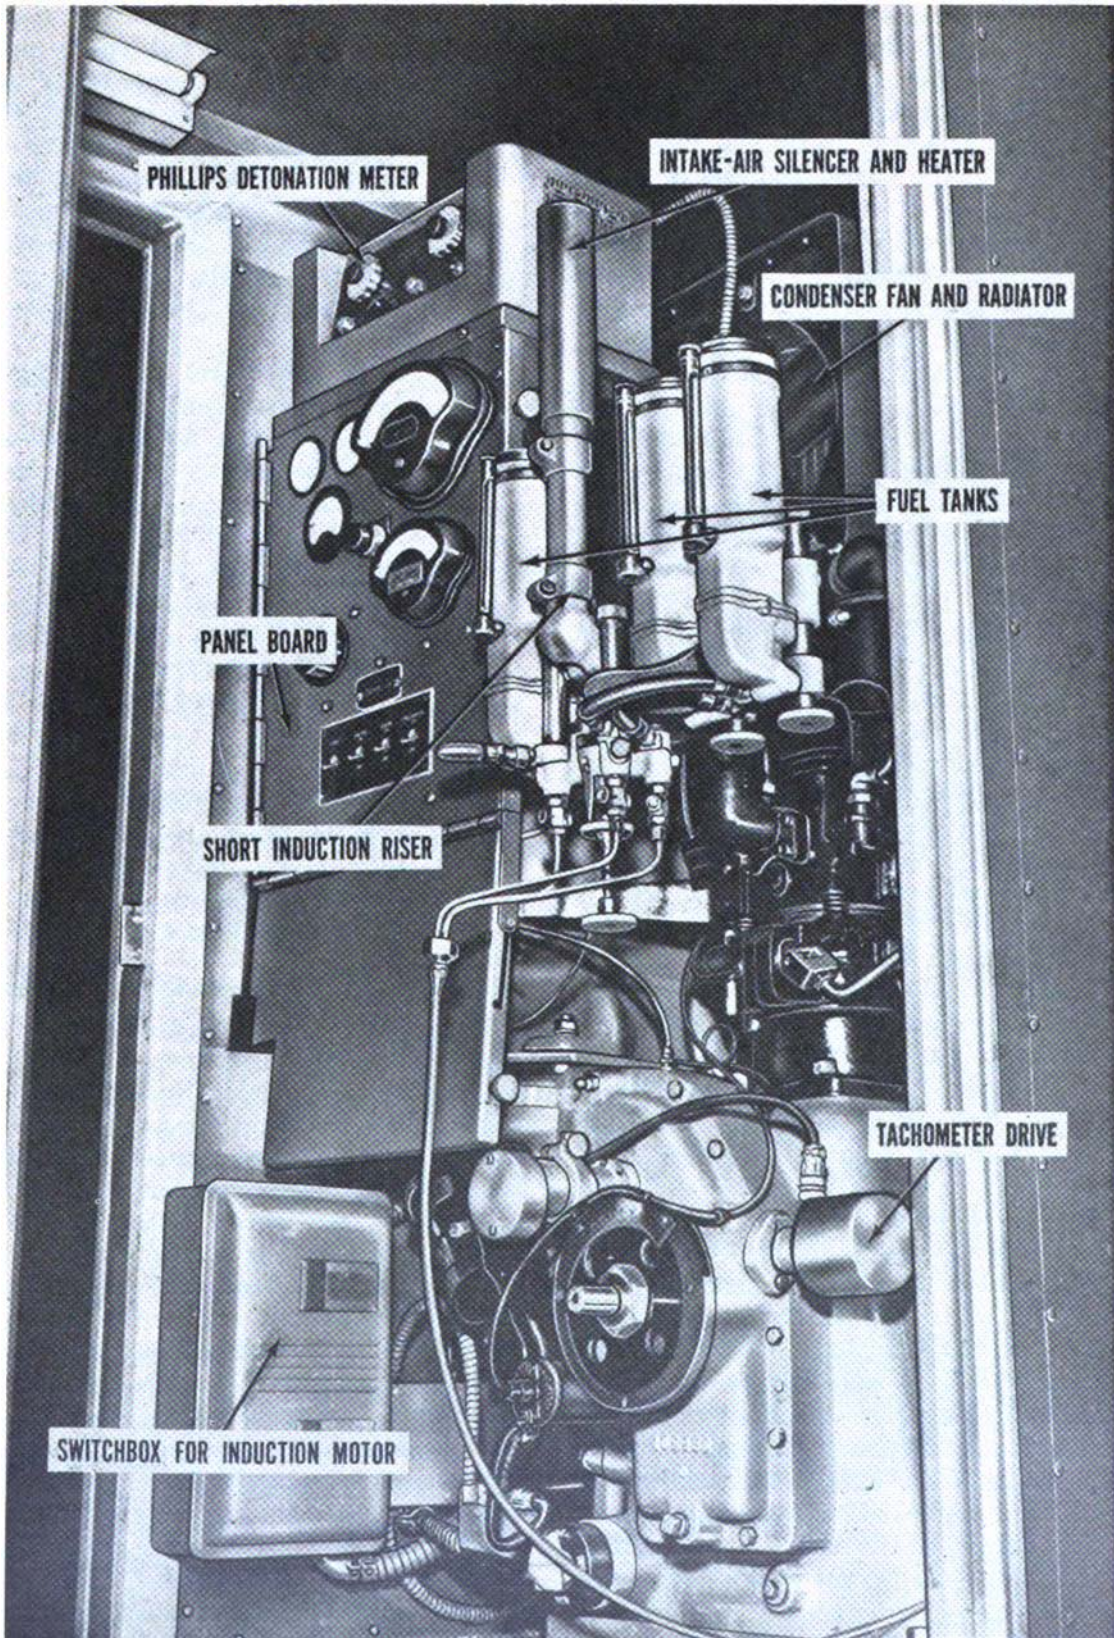
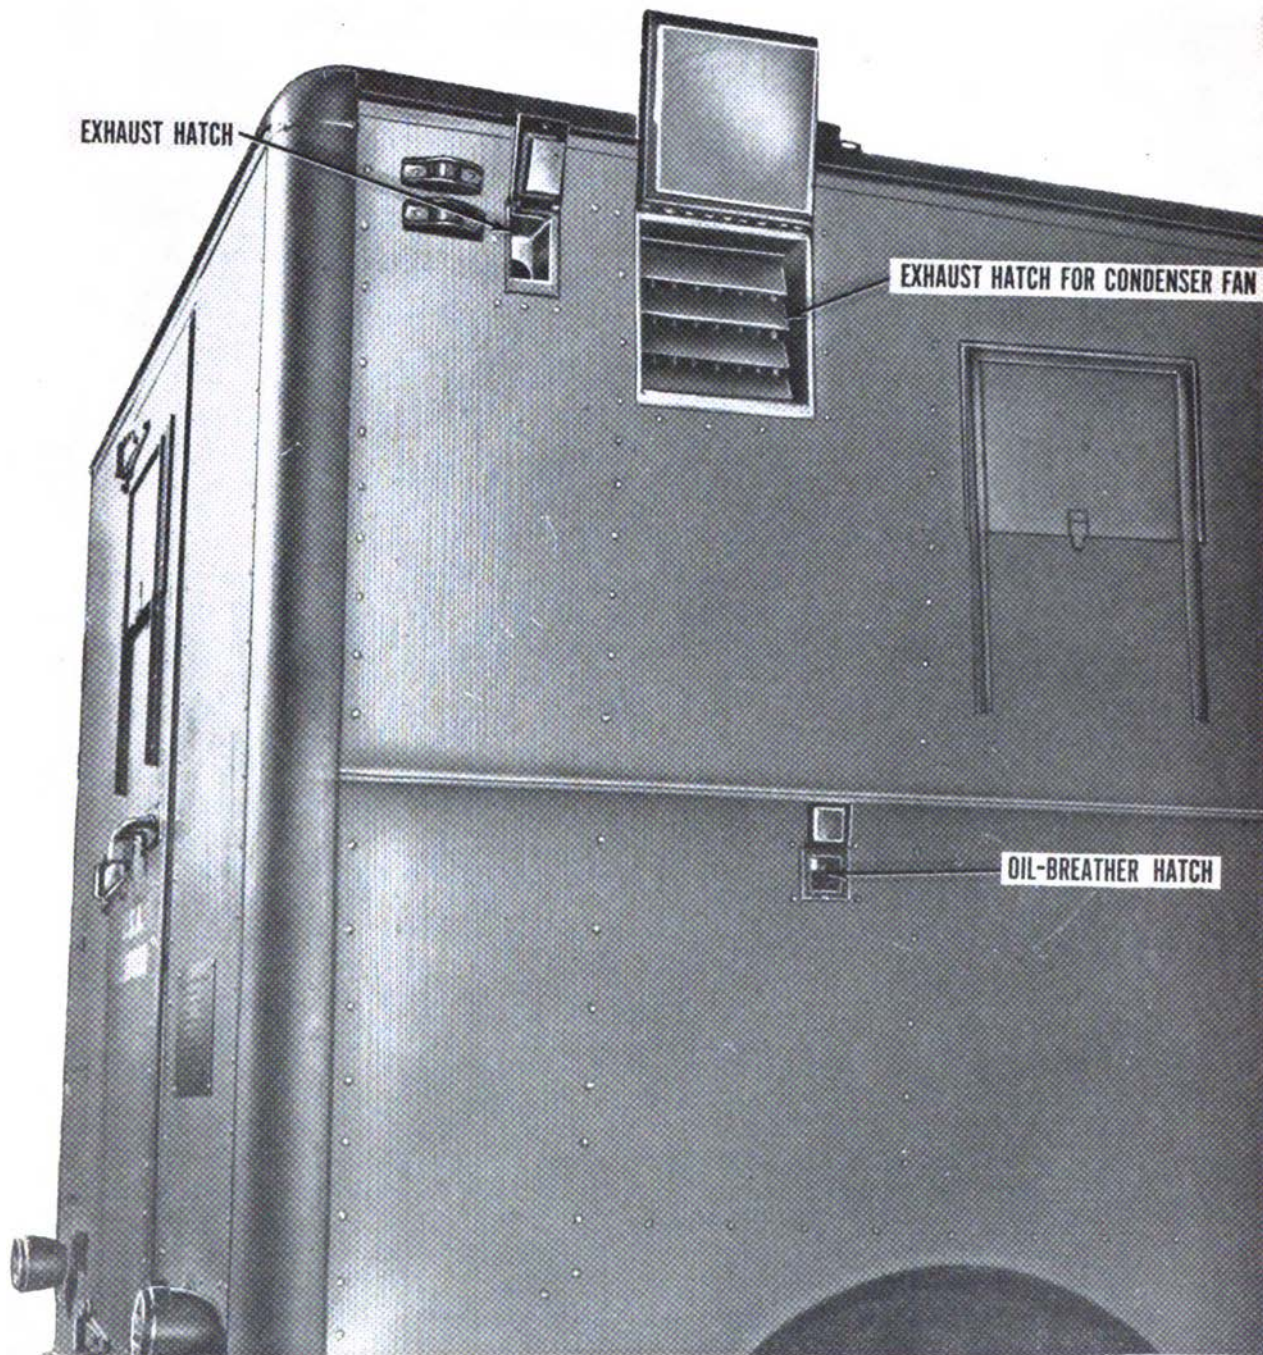

Figure 55. Modified knock engine (overall view).
Figure 58. Hatches for knock-engine exhaust, condenser fan, and oil-breather pipe.
The modified CFR (Coordinating Fuel Research) knock-testing engine (figs. 55 and 56) is supported by a platform mounted on the right wheel well and extending to the rear wall of the rear compartment. The modified knock engine replaces standard engines normally used for performing either the "research method" or the "motor method" test for determining knock characteristics of motor fuels. The modified knock engine includes changes in design due to space limitations within the mobile laboratory. This paragraph describes differences between the modified knock engine and the standard knock engine, and includes instructions for adapting the engine to perform each test. For complete description of engine and test instructions, refer to the ASTM Manual of Engine Test Methods for Rating Fuels.
- (2) *Cooling and ventilation.* The modified-engine cooling system utilizes a condensing radiator and fan in place of the standard water-cooled condenser. The exhaust hatch for the condenser fan opens from the outside of the trailer (fig. 58). The crankcase oil-breather pipe has been redesigned to extend directly out the side of the trailer.
opens directly into the atmosphere through the exhaust hatch (fig. 58). As the ice tower has been eliminated, humidity control of intake air is not possible. In its place is a short induction riser to which is attached a short intake-air silencer (fig. 55) of the type used on the cetane method engine. An intake-air heater is attached to the silencer for the research test method. The intake-manifold thermometer is placed so that it may be read from the front of the engine.